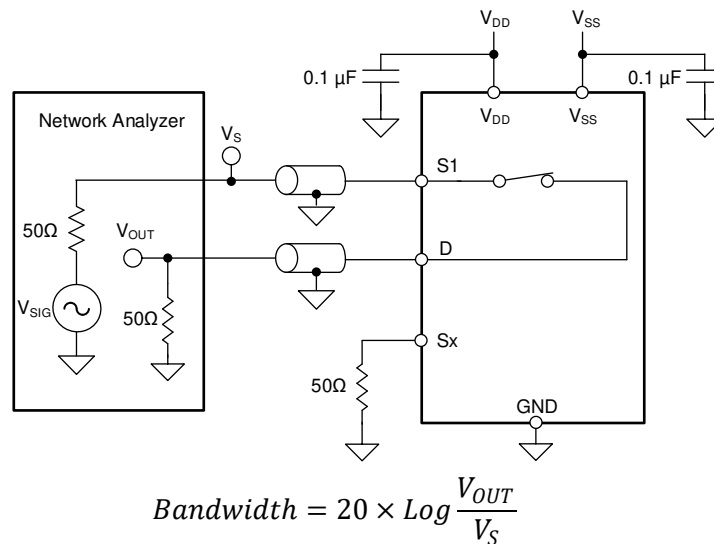

Figure 8-12. Bandwidth Measurement Setup
Bandwidth is defined as the range of frequencies that are attenuated by less than 3 dB when the input is applied to the source pin (Sx) of an on-channel, and the output is measured at the drain pin (D) of the device. Figure 8-12 shows the setup used to measure bandwidth.